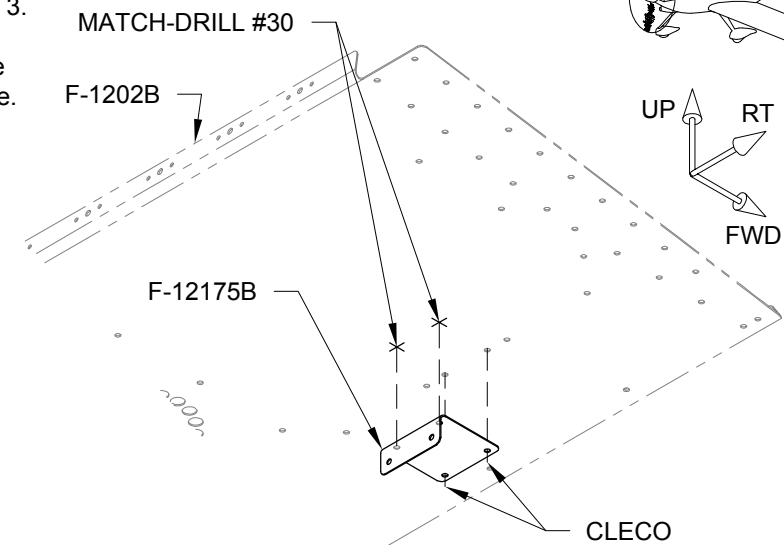

FIGURE 3: MATCH DRILL ANGLE TO PANEL BASE
Step 4: Cleco the F-12175B Angle to the underside of the F-1202B Panel Base through the holes shown in Figure 3.
Step 5: Match-Drill #30 the F-1202B Panel Base per the call-out in Figure 3 using the F-12175B Angle as a guide. Remove the angle and deburr.